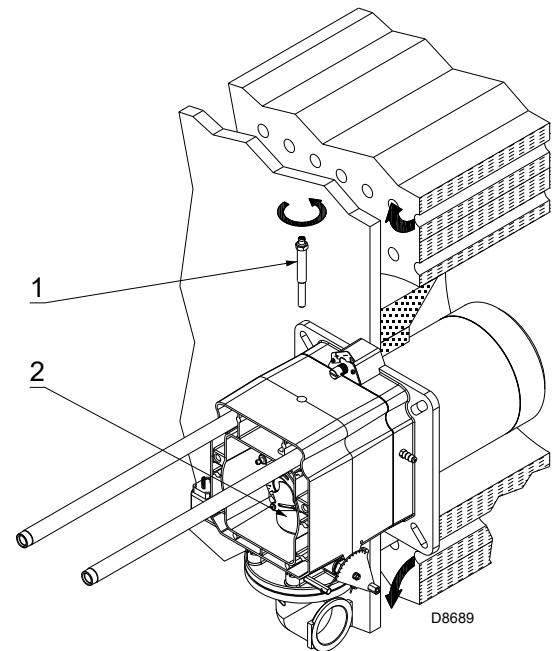

Fig. 13
In order to reach inside the combustion head (Fig. 13) proceed as follows:
- remove the screw 1)(Fig. 13);
- take out the inner part 2)(Fig. 13) of the head, and then calibrate them.